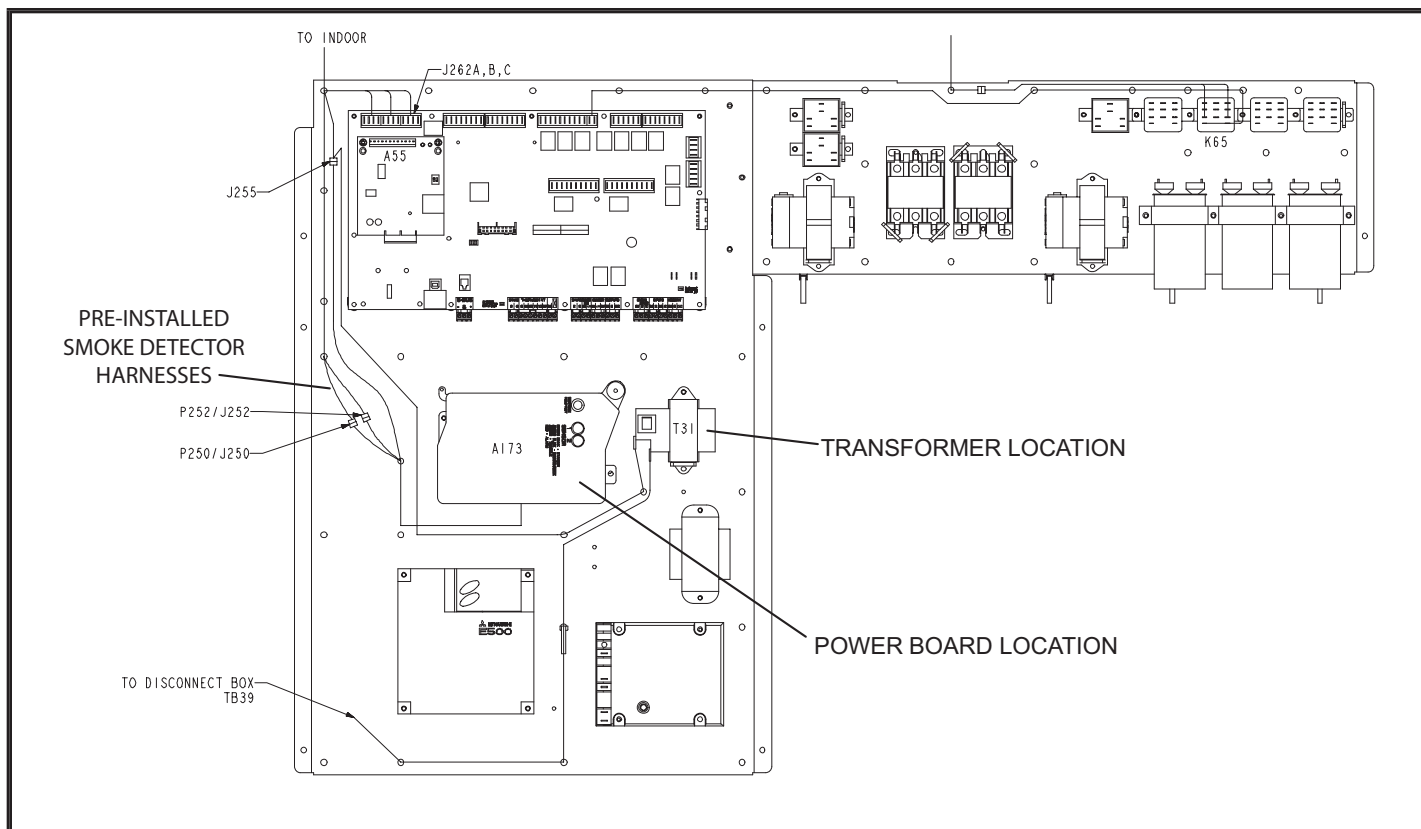
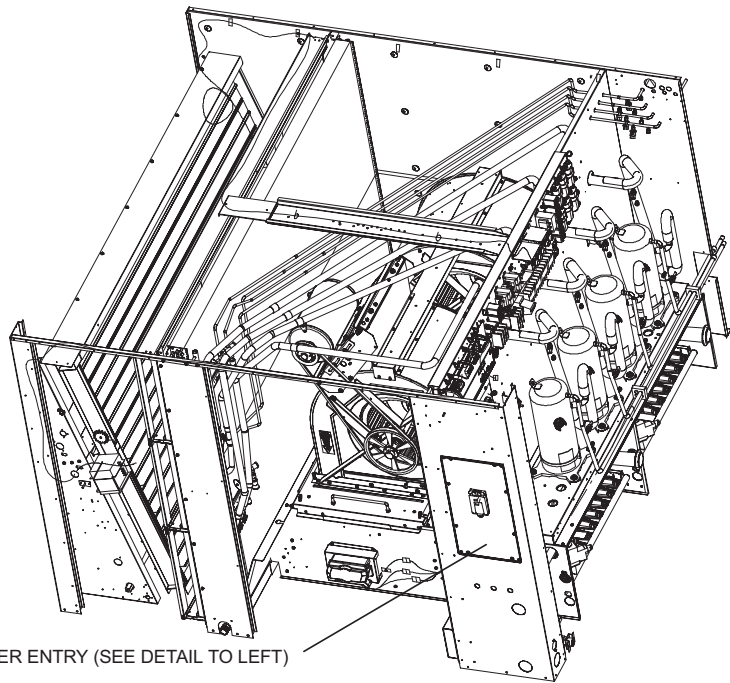
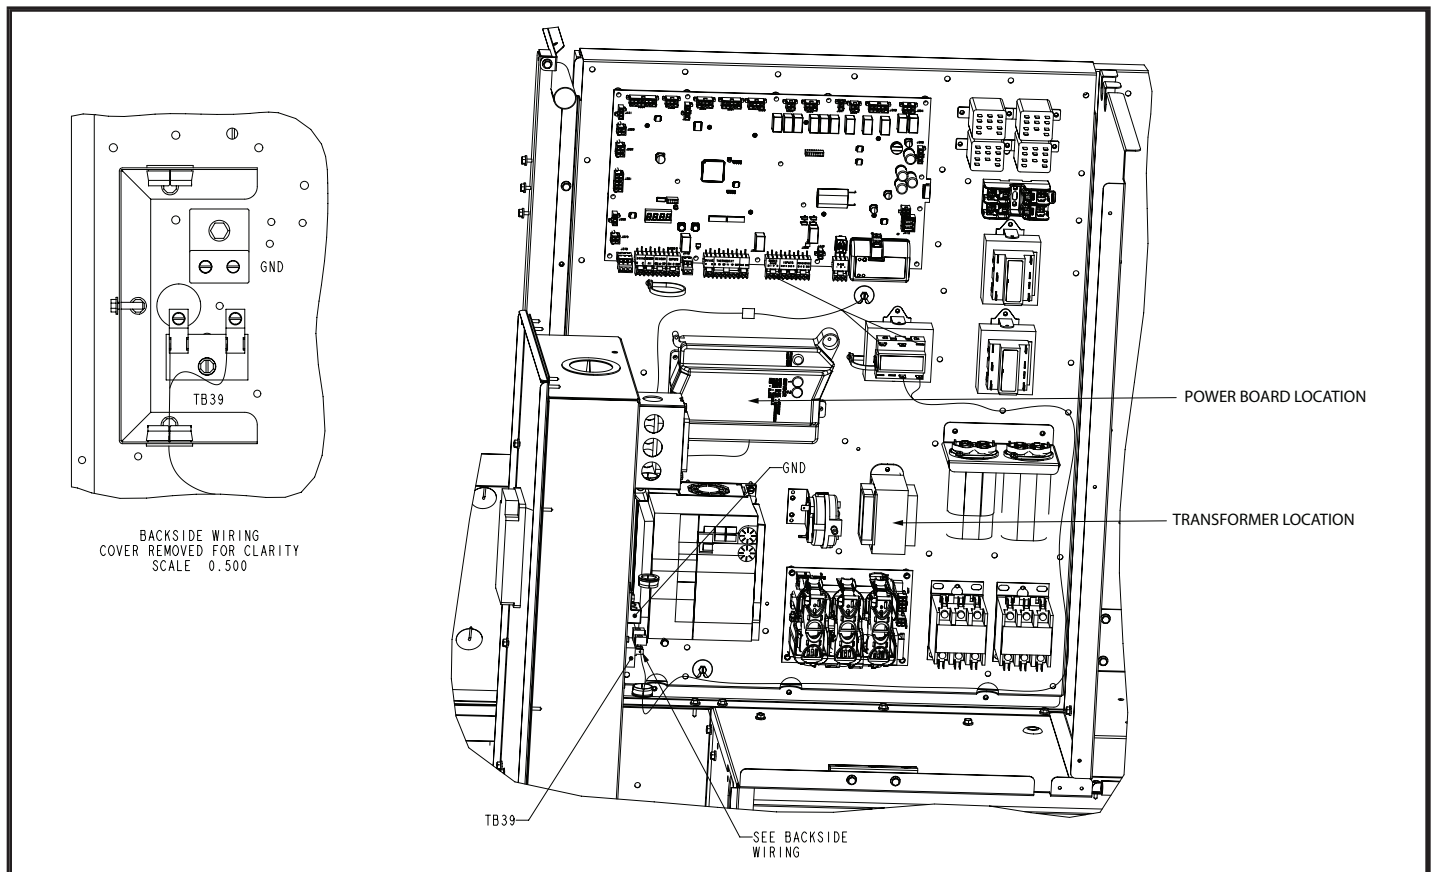

FIGURE 3 Power Board / Transformer Locations On M3 Boards (B-box)
FIGURE 5 Transformer Harness Routing
FIGURE 9 Power Board / Transformer Locations On M4 Boards (B-Box)
Use manufacturer's instructions provided with smoke detector to install sensor(s) and power board. Refer to FIGURE 3 for B-box power board location and FIGURE 4 for D-box power board location. Secure control board to control panel with #8-32 screws provided.
Mount transformer to control board panel next to the smoke detector power board. See FIGURE 3 (M3 Board) and FIGURE 9 (M4 Board) for B-Box. See FIGURE 4 (M3 Board) and FIGURE 10 (M4 Board) for D-Box.
- 2 - Route T31 transformer harness from line side of transformer to TB39 located on back of main disconnect box (see FIGURE 5). Connect load side of transformer to smoke detector control board power harness (see FIGURE 3 for B-box and FIGURE 4 for D-box).